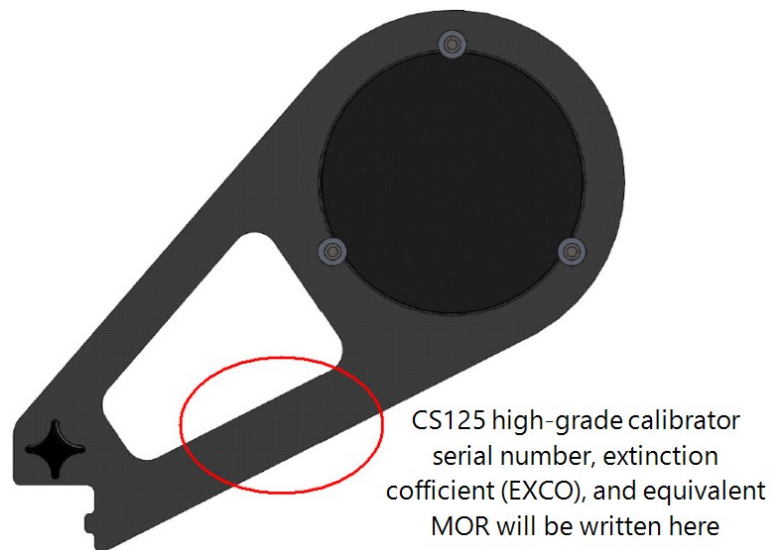

Figure 7-1. Calibration disk
7. Place the foam bungs into the sensor hoods (see Figure 7-1 [p. 68]). The bungs are designed to block all light from the outside reaching inside the head. Place one bung into each hood. If either of the bungs are damaged or appear to have any gaps around the edge, contact Campbell Scientific (see Assistance for more information).